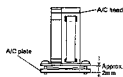

Fig. 3-9-4
- ① Solder the lead wires to the A/C head.
- ② Mount the A/C plate spring and A/C head on the A/C plate. Secure these parts with screws ①, ② and ③ to the dimension shown in Fig. 3-9-4.